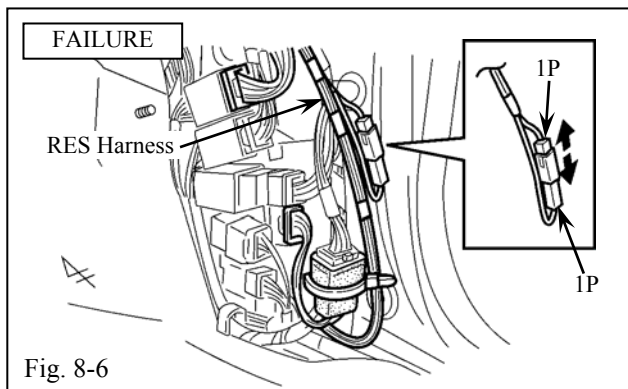

Fig. 8-6
- (l) Disconnect the RES Harness white 1P Connector from the Passenger Side Cowl Area. (Fig. 8-6)